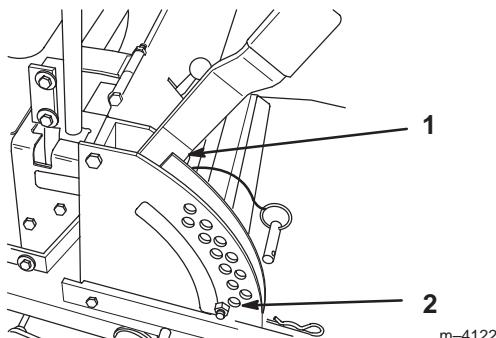

**Figure 39**
3. Torque slotted nut to 125 ft-lbs (169.5 N•m) (Fig. 39).
4. Check the distance from bottom of slot in nut to inside edge of hole. Two threads or less should be showing (Fig. 39).
5. If more than two threads are showing remove nut and install washer between hub and nut (Fig. 39).
6. Torque the slotted nut to 125 ft-lbs (169.5 N•m) (Fig. 39).
7. Tighten nut until the next set of slots line up with the hole in the shaft (Fig. 39).